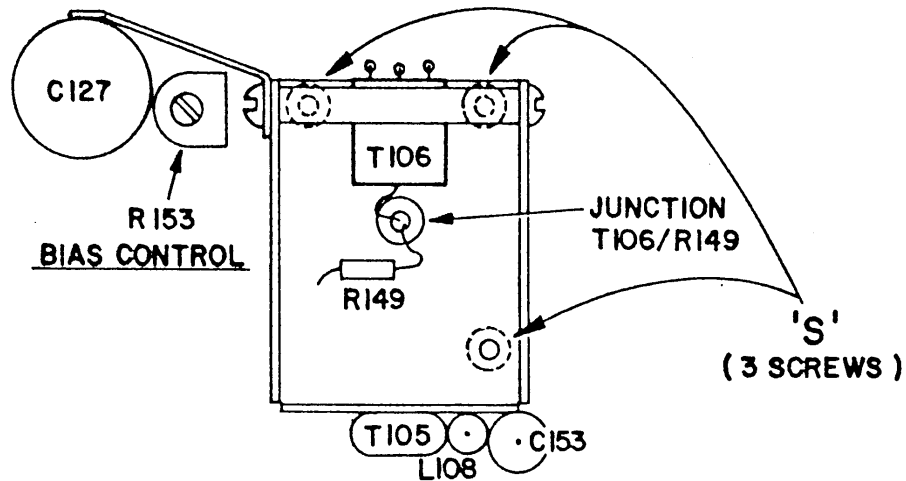

FIGURE 3 MODULE LPA2 - TOP VIEW
1. Removal of Defective PA (See Figure 3 Above)